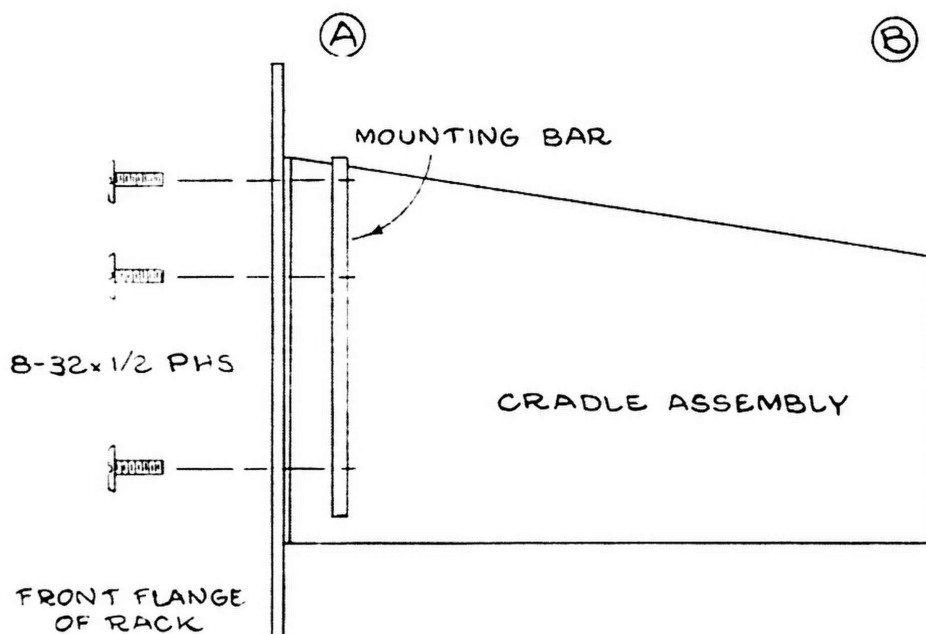

FIG. 2
- () 2. Fasten each side of the cradle assembly to the front flange of the relay rack, with three 8-32 x 1/2 PHS screws from the kit (see Figs. 2 and 6). Each mounting bar is fastened to the cradle by a single 4-40 screw, allowing it to be adjusted for slight variations in rack width.